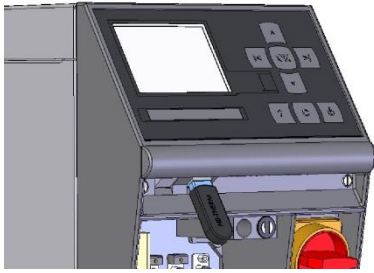

Fig. 91: Connect USB data carrier
2. Connect USB data carrier (Fig. 91).